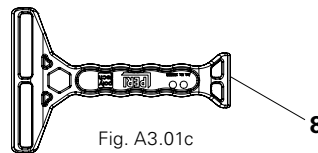

Fig. A3.01c
- DW 15 wingnut counterplate (54)
- DW 15 wingnut pivot plate (56) (Fig. A3.01c)